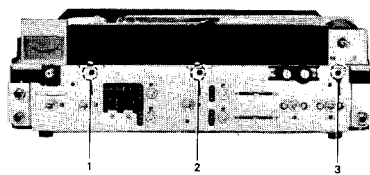

Fig. 2
1. Remove four (4) cabinet mounting screws.
3. Remove fourteen (14) control knobs from front panel.
4. Remove six (6) front panel mounting black screws. Refer to cabinet and chassis Parts Location on page 13.
6. Remove seven (7) tuner mounting black screws, nos. 1~7, as figure 2 and 3.